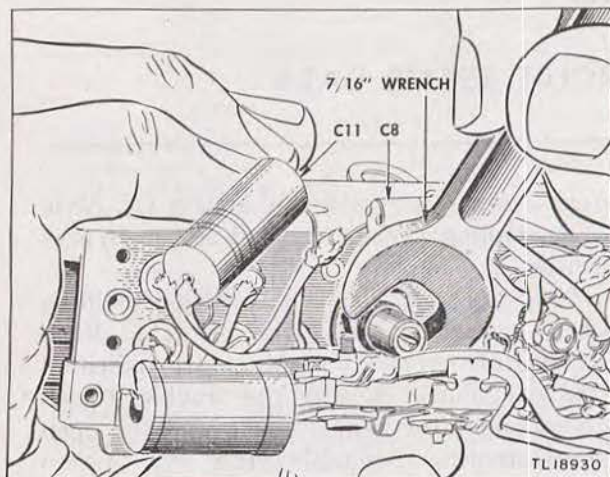

Figure 41. Removing capacitor retaining nut, Radio Receiver and Transmitter BC-611-(*).
a. **REMOVAL.** (1) Remove antenna and antenna guide as indicated in paragraph 36*a*.
(2) Unsolder blue-white tracer of capacitor C12.
(3) Remove retaining nut using a 7/16 inch open-end wrench. (See fig. 41.)
(4) Remove capacitor and plastic cover from chassis.
(5) Separate capacitor and plastic cover using a knife to break the seal.
b. **REPLACEMENT.** (1) With cover on capacitor in position, cement in place to capacitor base.